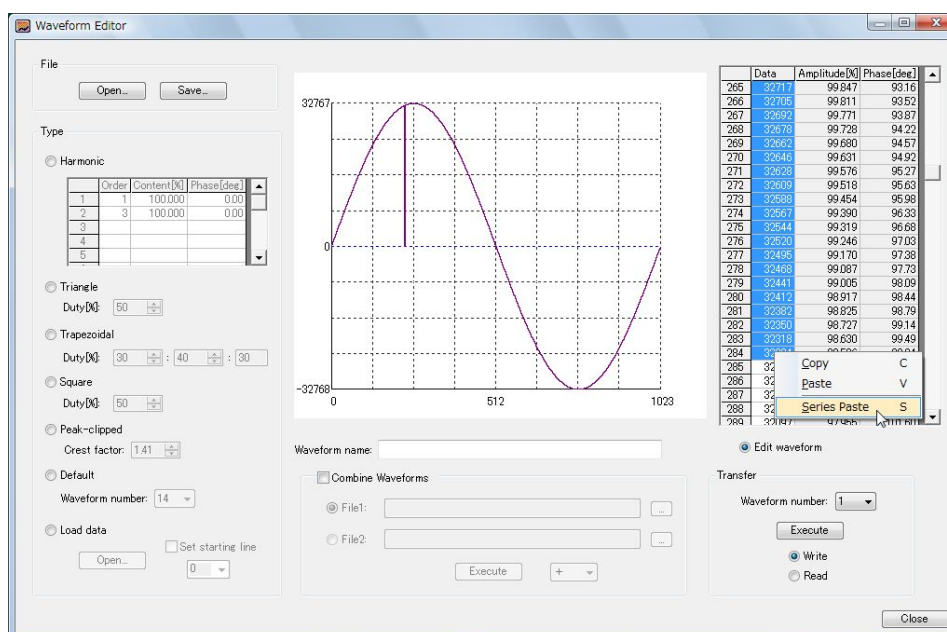
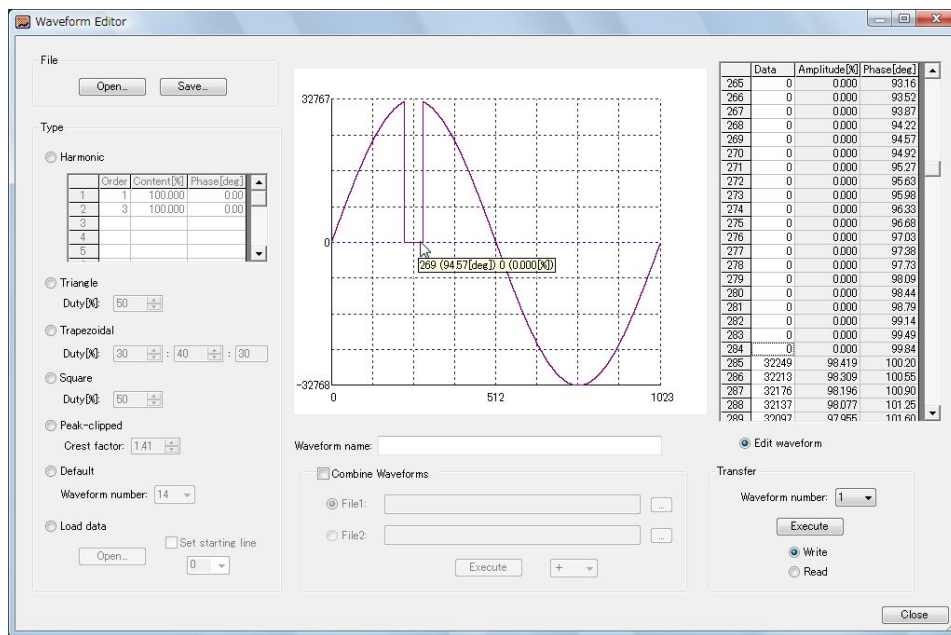

Fig. 11-16 Editing a waveform (part 2)
Fig. 11-17 Editing a waveform (part 3)
Drag the mouse pointer all the way down to data point 284. Then click the right mouse button. Select **Consecutive Paste** as shown in Fig. 11-16. As shown in Fig. 11-17, all the selected cells change to the value that you entered for data point 228 (0).